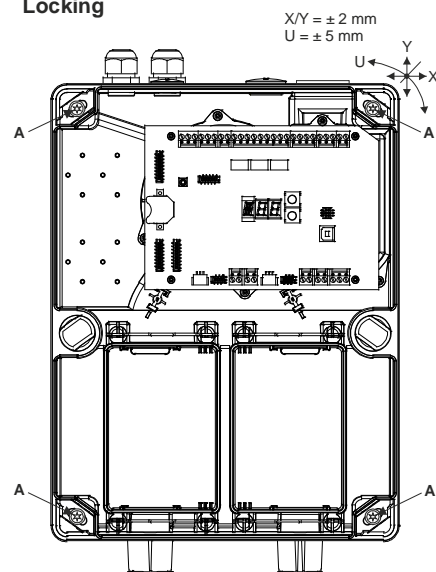

Fig. 1 Opening, closing and fastening the detector housing
- To use the **rotary snap locks**, **press firmly** with the screwdriver toward the housing base and then **turn 90°**. The position of the lock slit shows the current state (see Fig. 1):